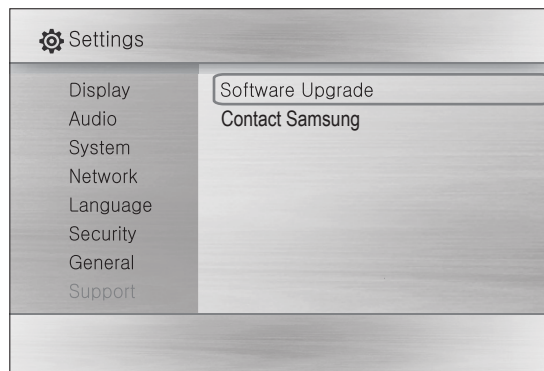

Fig. 4-14
- 3) Press [Enter] on SOFTWARE UPGRADE (see Fig. 4-14)